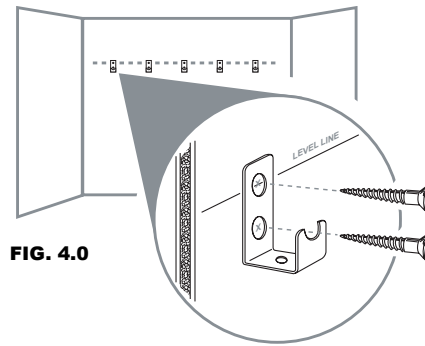

FIG. 4.0
- Center the top screw hole on L-Hook with level line on wall and attach L-Hooks to wall using #8 1-1/2" screws (Fig. 4.0).